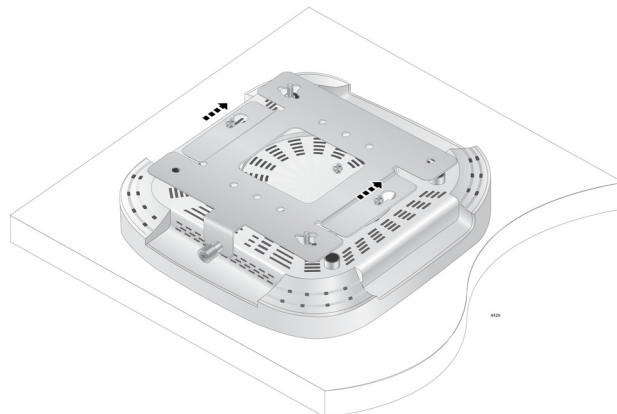

Figure 18. Seat Access Point onto Mounting Bracket
2. Slide the chassis forward until seated into the bracket keyhole slot and the bracket thumbscrew is aligned with the screw hole on the front of the chassis. Refer to Figure 18.